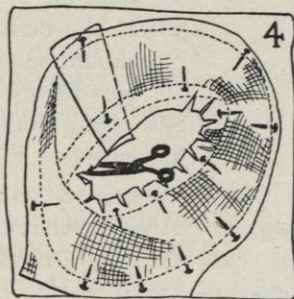

FIG. 4.
- h. Continue pinning (or tacking), cutting at headsize, and stretching about every 2 inches (as in Sections *d* through *g* page 118), always pinning (or tacking) at headsize, and working from headsize out to the edge, and from starting point, first on one side toward the lap, and then on the other side (see Figure 4).
- i. Slash the material from the inner edge to the top headsize so that it lies flat against the model (see Figure 4) but be careful not to slash too far. A few small slashes are better than one or two big ones.
- j. Cut the material for a lap, and pin or tack in place at edge and headsize (see Figure 4).
- l. Remove pins, (or tacks) from the bottom headsize wire (or from below the headsize line in a wooden block). Draw material smooth; slash it at headsize, if necessary (see Figure 4) and pin it to the top headsize wire (or further down on the headsize of a wooden block).
- (5) Lap wire 2 inches and buttonhole cut ends firmly.
- (6) Bind with $\frac{3}{4}$ -inch bias of crinoline (see Figure 4 of Job 24, page 101).